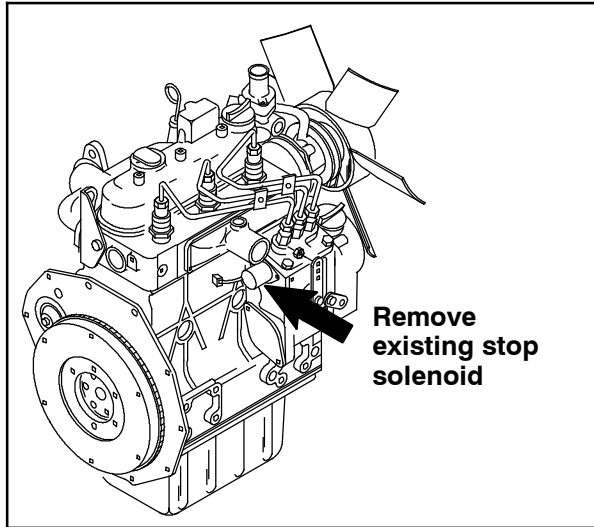

FIG. 4
2. Remove the existing stop solenoid from the fuel injection pump. Refer to Fig. 4.